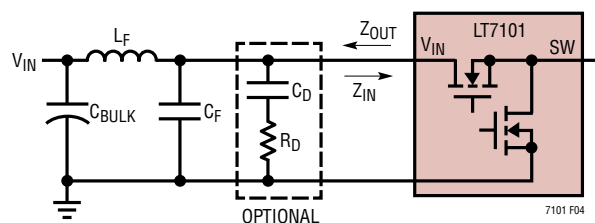

Figure 4. Input Filter with Optional Damping Network
For high voltage applications, it can be costly to use bulk capacitance that is rated to handle the required RMS input current. Moreover, when using a simple capacitor to filter the AC input current, it is difficult to determine exactly where this AC current is flowing when a power supply is placed into a larger system. To avoid these issues, an LC filter can be used on the power supply input as shown in Figure 4. This keeps the higher AC currents contained in a relatively small and inexpensive capacitor (CF) whose RMS current rating is known to be adequate. Choose an LC filter such that:
When using an LC input filter, the output impedance of the LC filter ( $Z_{OUT}$ ) must never be greater in magnitude than the input impedance looking into the power stage of the DC/DC converter ( $Z_{IN}$ ). This is necessary to avoid ringing and possible voltage loop instability. In many applications, this condition is naturally satisfied because the ESR of the bulk input capacitance  $C_{BULK}$  is high enough to lower the Q of the LC input filter. In some situations, a series damping network must be added as shown in Figure 4. In order to provide critical damping, choose  $C_D$  and  $R_D$  according to: